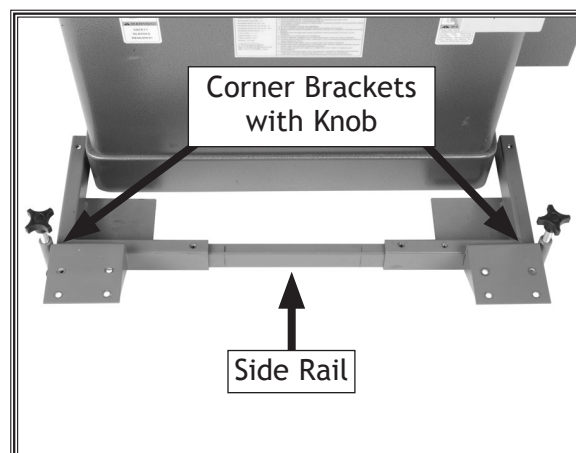

Figure 18. Rail inserted between corner brackets with knobs and feet.
3. Slide a side rail inside each of the two corner brackets with the foot posts, then slide the assembly up against the front of the machine or the side that will be pushed (see **Figure 18**).
5. Thread (1) 8mm lock nut halfway onto each M8-1.25 x 25 hex bolt with the nylon insert on the nut facing the head of the bolt.